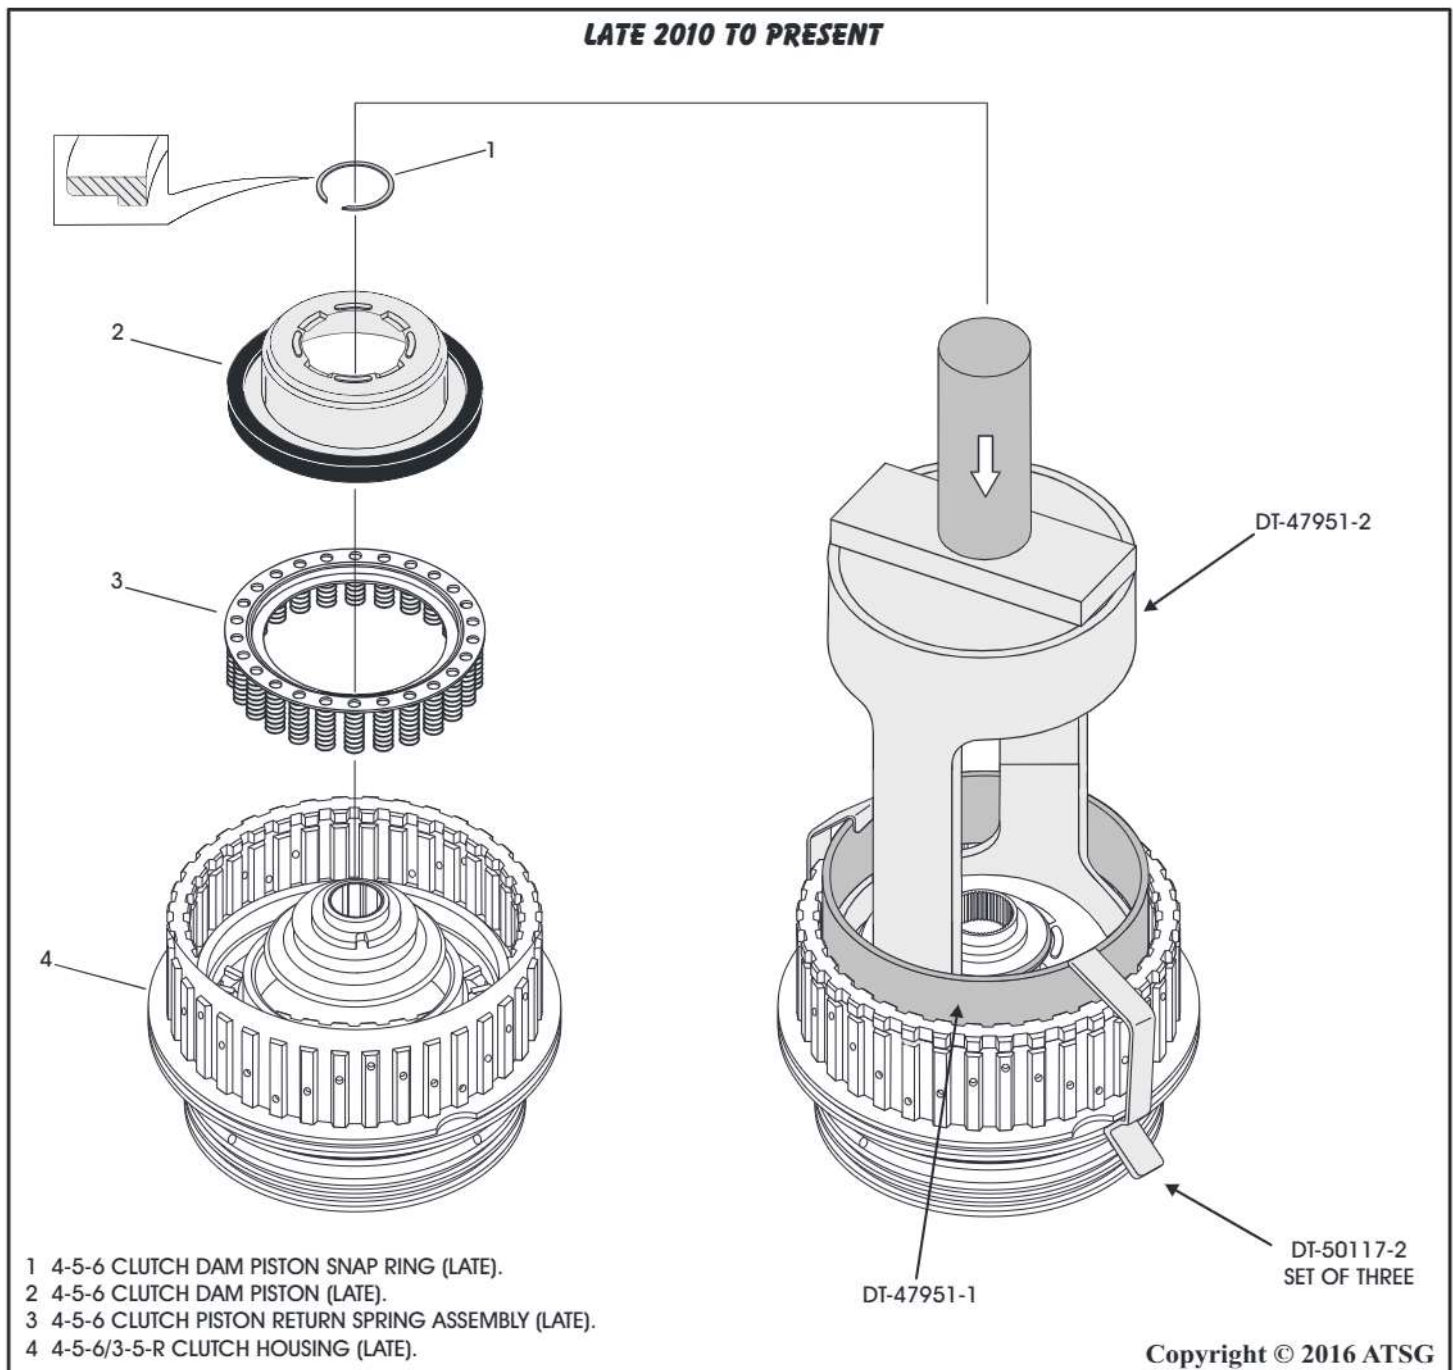

Figure 109
60. Install the 4-5-6 piston return spring assembly as seen in Figure 109.
61. Install the fluid dam piston shown in Figure 109 using the DT-47951-1 outer seal protector and the DT-50117-2 seal protector retaining fingers as well as the DT-46620 inner seal protector.
63. Place the DT-47951-2 spring compressor onto the 4-5-6 fluid dam piston and compress the return spring as seen in Figure 109.